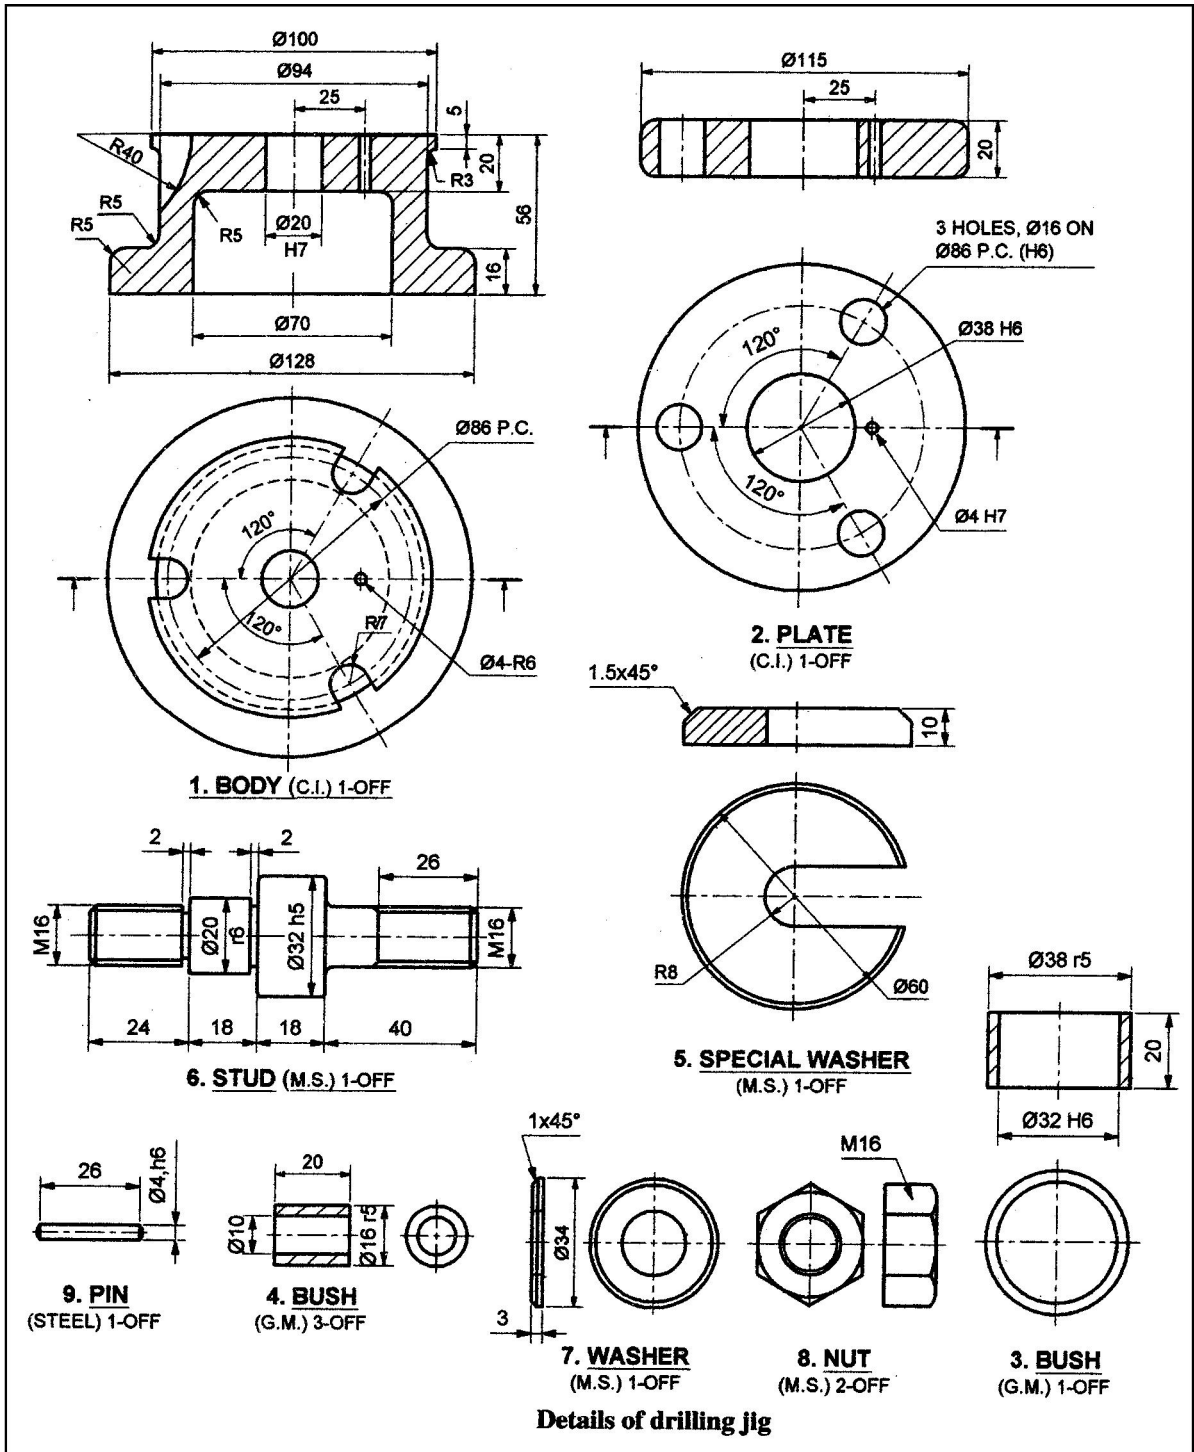

Fig. No. 6
- (b) Fig. No. 6 shows details of drilling jig.